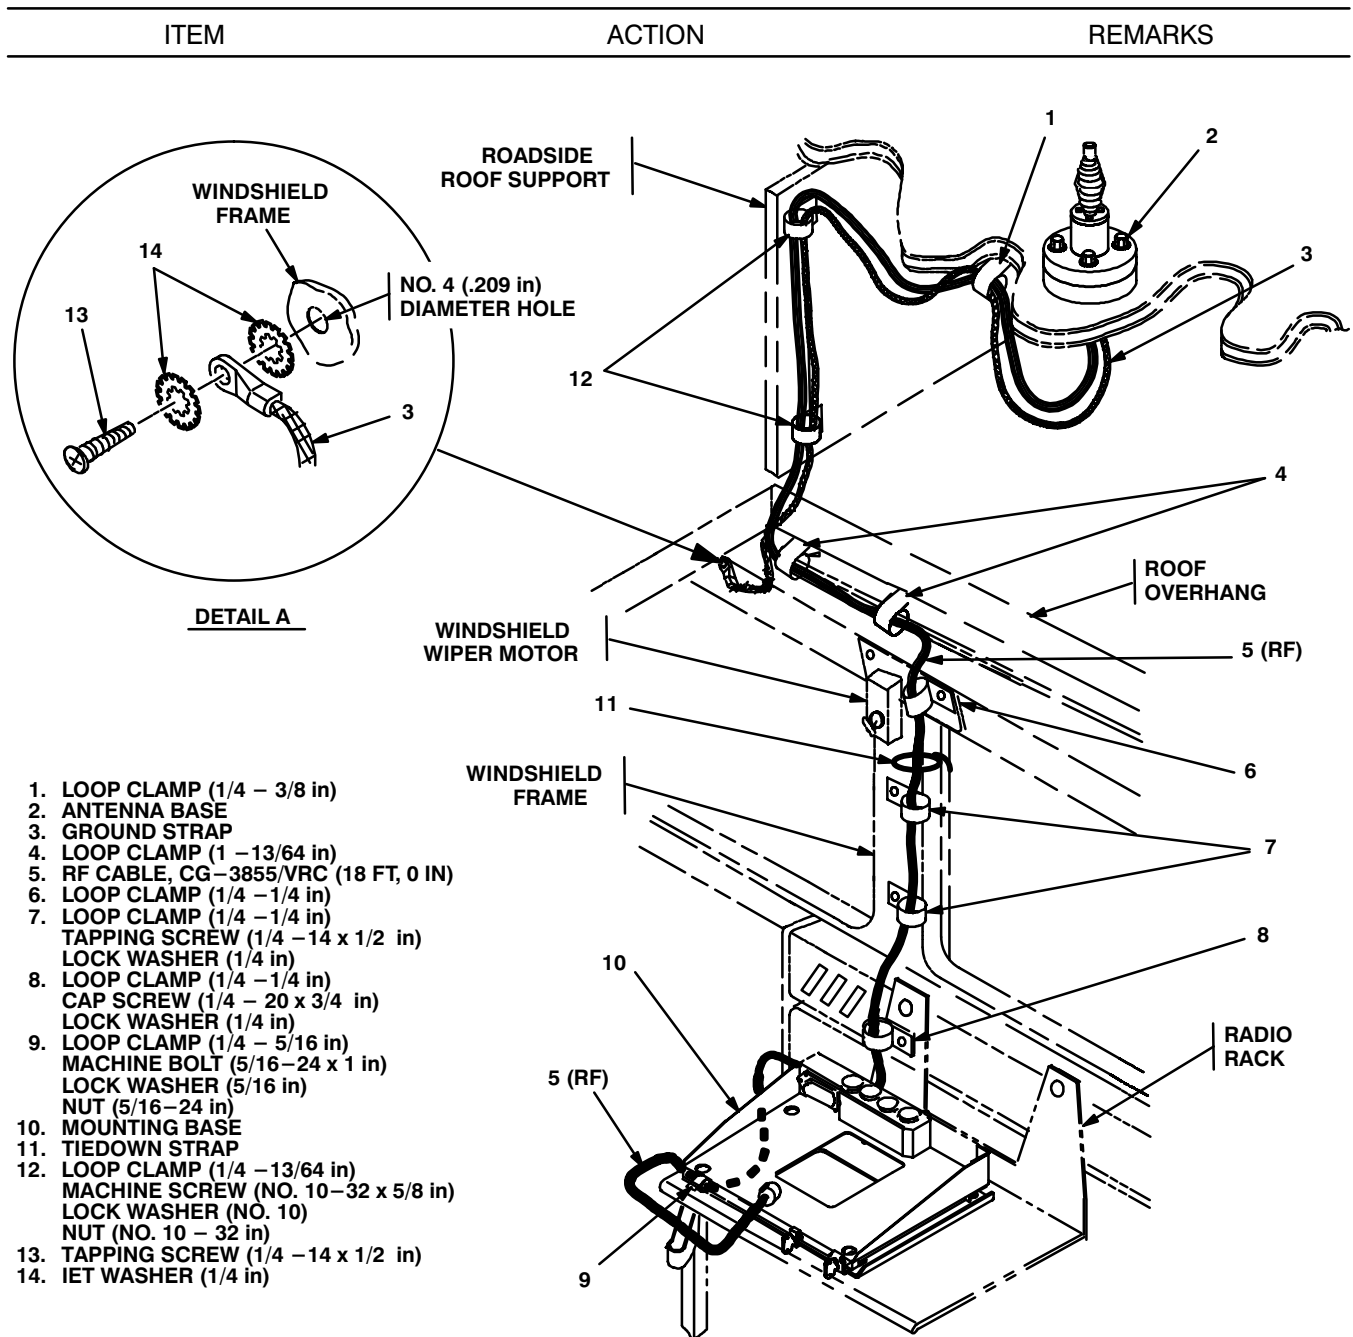

Figure 5-7. RF Cable Installation: M997 Ambulance
| f. | Roadside roof support.                                   | Drill two 7/32 in diameter holes through support for mounting loop clamps (12). See figure 5-7 for location(s). | Tools: Electric drill and 7/32 in drill bit. |